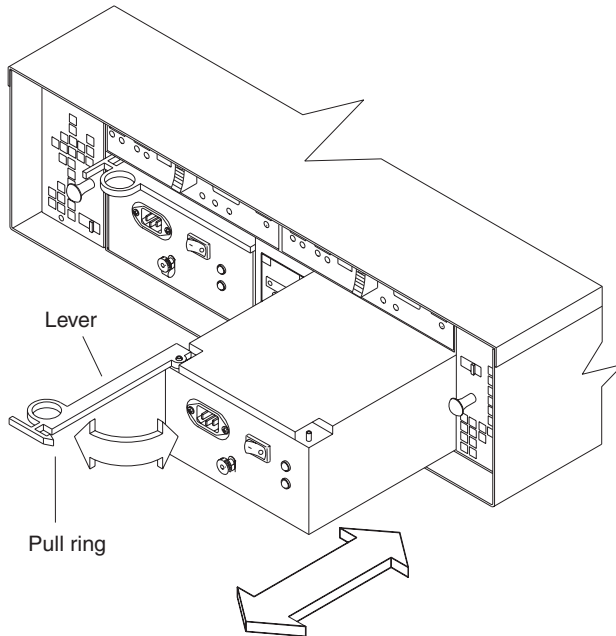

Figure 19. Replacing a power supply
1. Slide one power supply into the expansion unit. Be sure to replace the power supplies so that the lever on each power supply opens toward the interior of the expansion unit, as shown in Figure 19.
**Attention:** Be sure that the lever is pulled straight out as you slide the power supply into the expansion unit, as shown in Figure 19.